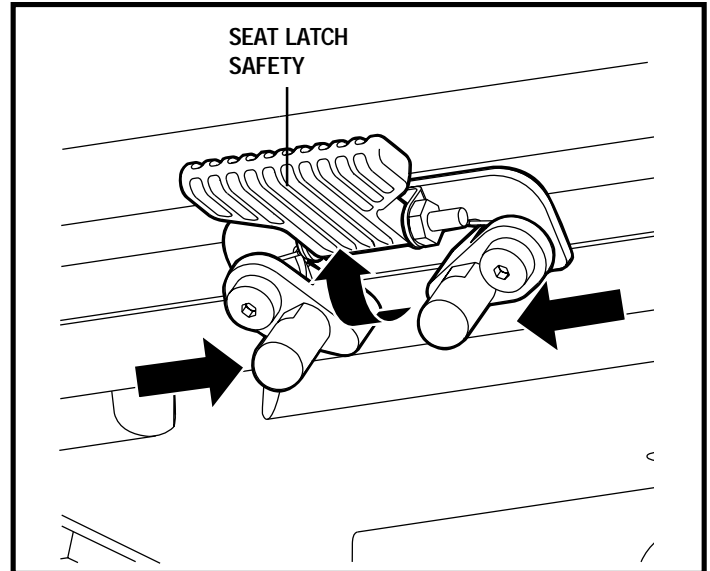

Figure 12. Seat Latch Safety
4. Flip up the seat latch safety. See figure 12.